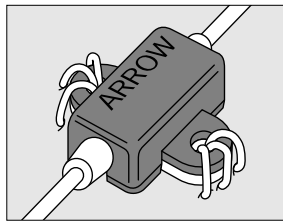

Fig. 12
- Secure catheter to patient by suturing the catheter clamp and fastener together to the skin, using side wings to prevent catheter migration (refer to Fig. 12).